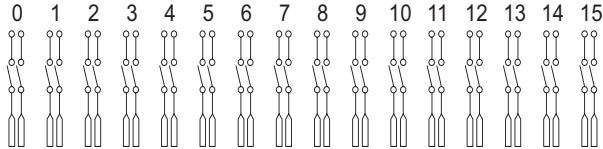

Fig. 5
These modules have the inputs of 16 relays wired to header connectors on the rear edge of the module and the outputs wired to the motherboard as shown in **Figs. 5 & 6**.
**VX16/G1** has 16 single pole relays wired to two 20 pin headers as shown in **Fig. 5** and is available with **Type S** or **M** reed relays.
**VX16/G2** has 16 two pole relays wired to two 20 pin headers as shown in **Fig. 5** and is available with **Type S, M** or **LT** reed relays.